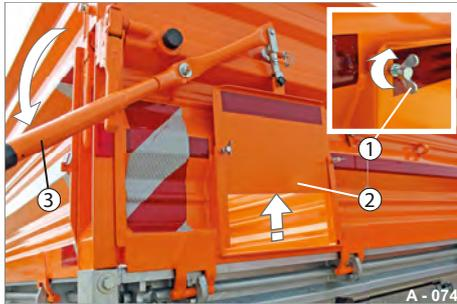

Fig. 96 Dosing slider, open
- ▶ Press the operating lever (Fig. 96/3) downwards.
- ▶ Fasten the sliding flap (Fig. 96/2) open with the wing bolts (Fig. 96/1).
- ▶ Press the operating lever (Fig. 96/3) upwards until the sliding flap is completely closed.
- ▶ Fasten the sliding flap (Fig. 96/2) closed with the wing bolts (Fig. 96/1).